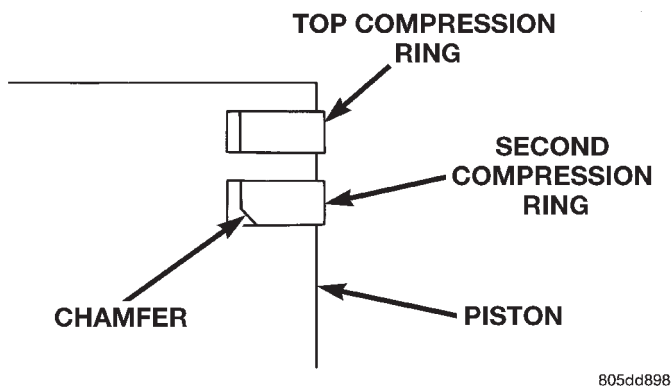
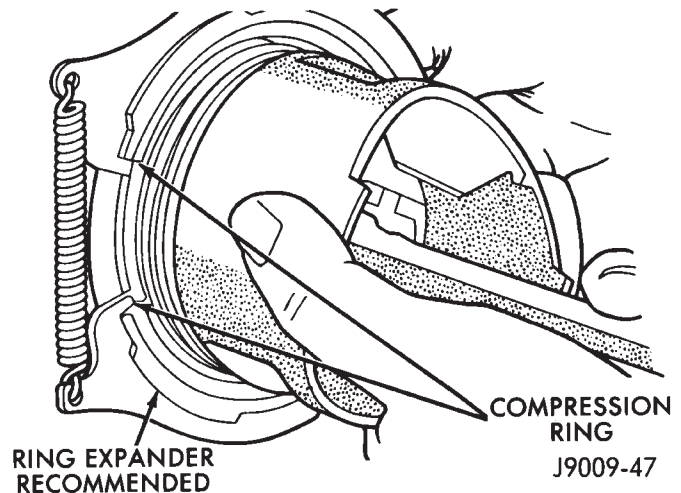

Fig. 12 Compression Ring Chamfer Location
Fig. 13 Compression Ring Installation
(8) Using a ring installer, install the second compression ring with the chamfer facing down (Fig. 12) (Fig. 13).
(10) Using a ring installer, install the top ring with the dot facing up (Fig. 13).